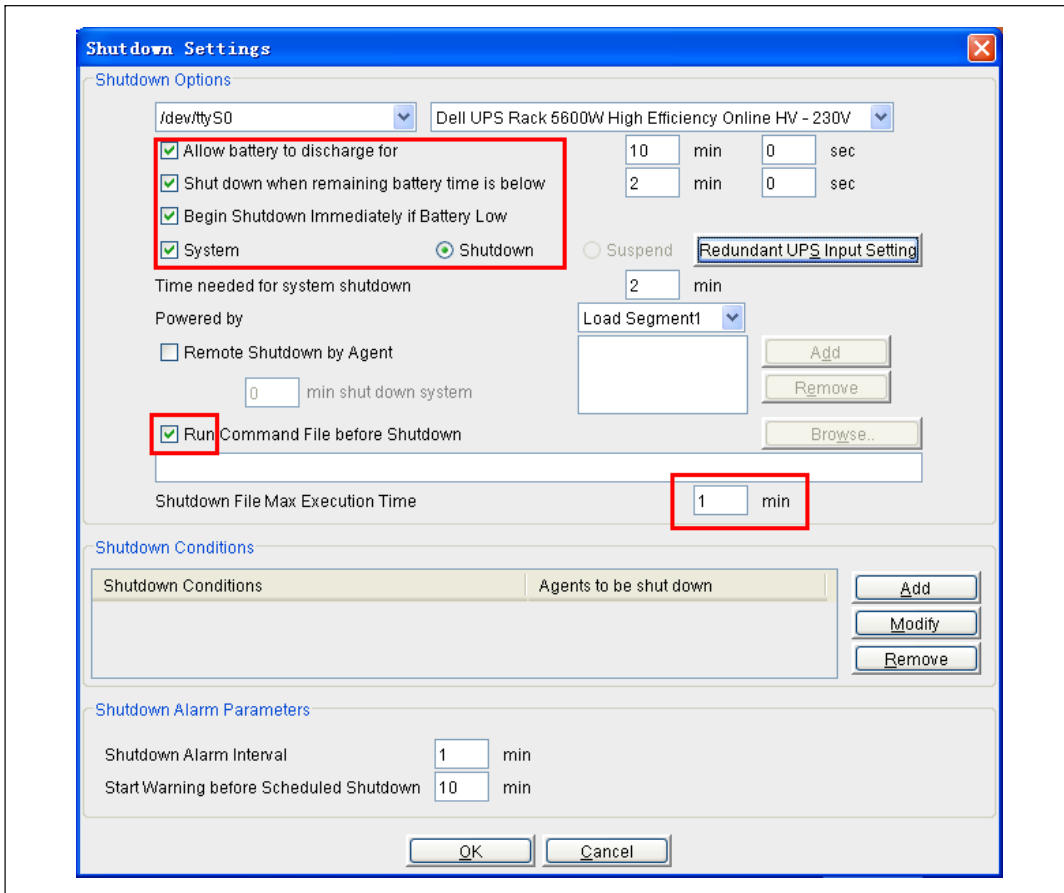

Figure 113. Shutdown Options
- 4 On the Shutdown Settings page (see Figure 113):